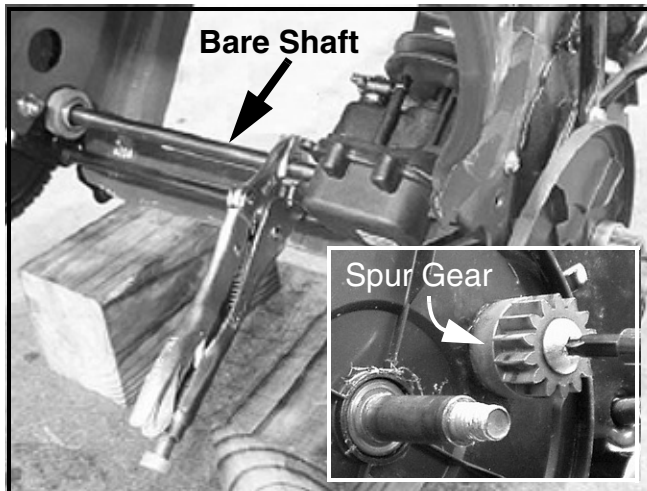

FIGURE 1A
2. **The proper method** for securing the transmission's output shaft from rotating is to clamp the transmission's output shaft with a pair of vise grip pliers as shown in Figures 1A and 1B. While holding the clamped-on vise grips, remove/install the spur gear retaining screws using a hand held 1/4" drive ratchet with the Torx bit. Observe the transmission output shaft to ensure there is no rotation during removal or installation of the retaining screw.